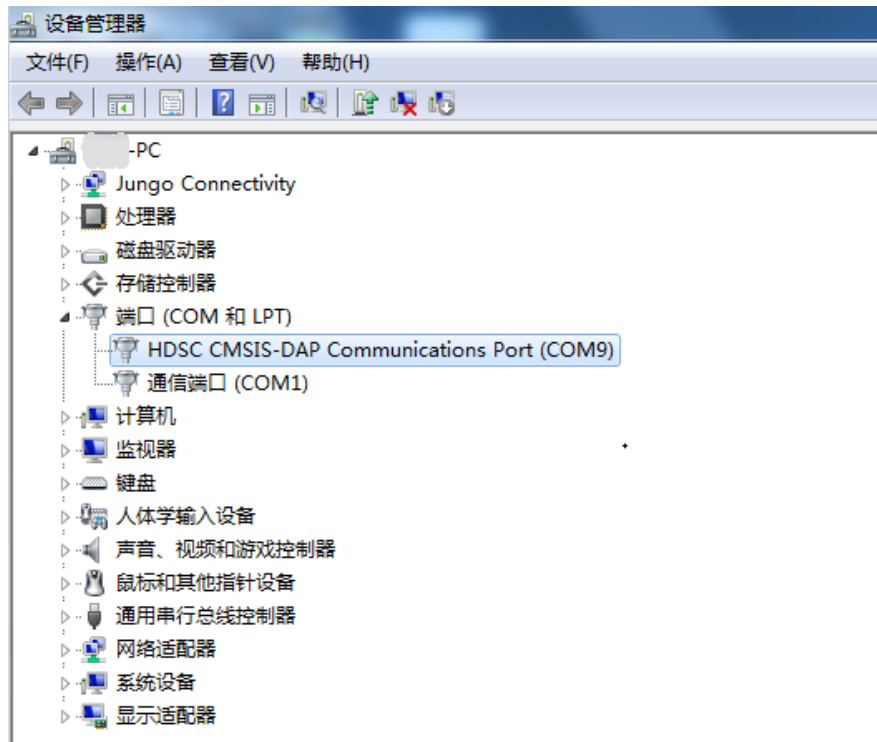

Figure 10 CM Emulator Virtual
7. Referring to Figure 10, view the port through Device Manager and the CM Emulator virtual port appears (HDSC CMSIS-DAP Communications Port).